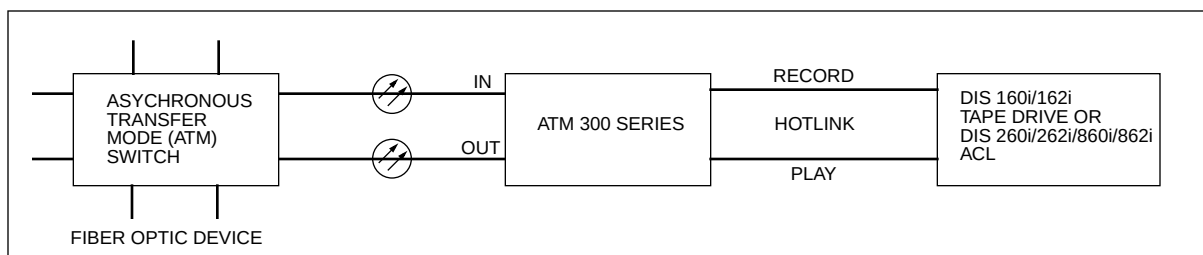

Figure 1. Typical Configuration
These three units convert OC-3 (Optical Carrier) data to HOTLink™ serial data for recording to an Ampex DIS tape drive. During playback, the units convert HOTLink serial data from the DIS tape drive to OC-3 optical data at a continuous 19.44 megabytes (MB) per second. Figure 1 shows a typical single unit configuration.